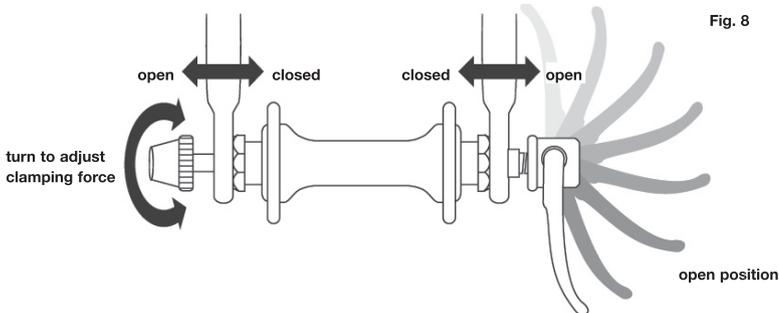

Fig. 8
3 Each time, before you ride the bike, check that the wheel is securely clamped (see fig. 8).
A wheel quick release uses a cam action to clamp the bike's wheel in place (see fig. 8). Because of its adjustable nature, it is critical that you understand how it works, how to use it properly, and how much force you need to apply to secure the wheel.
- 3 Holding the quick-release lever in the OPEN position with your right hand, tighten the tension adjusting nut with your left hand until it is finger tight against the fork dropout (fig. 8).
- 4 While pushing the wheel firmly to the top of the slots in the fork dropouts, and at the same time centering the wheel rim in the fork, move the quick-release lever upwards and swing it into the CLOSED position (fig. 8 & 10a). The lever should now be parallel to the fork blade and curved toward the wheel. To apply enough clamping force, you should have to wrap your fingers around the fork blade for leverage, and the lever should leave a clear imprint in the palm of your hand.
- 3 Move the quick-release lever to the OPEN position (see fig. 8). The lever should be on the side of the wheel opposite the derailleur and freewheel sprockets.
Some bikes are equipped with a quick-release seat post binder. The seat post quick-release binder works exactly like the wheel quick-release (Section 4.A.1) While a quick release looks like a long bolt with a lever on one end and a nut on the other, the quick release uses a cam action to firmly clamp the seat post (see fig. 8).